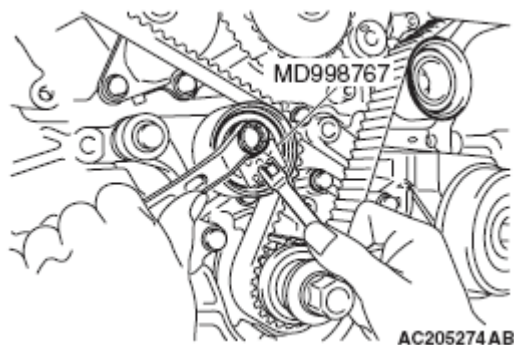

Fig. 47: Aligning Exhaust Side Paint Mark Of Timing Chain With Paint Mark Of Exhaust Side Camshaft Sprocket
6. Pull up the camshaft and camshaft sprocket assembly (exhaust side) mounting area of the timing chain **Fig. 47**) to provide allowance for easy installation of the camshaft and camshaft sprocket assembly (exhaust side) to the timing chain.